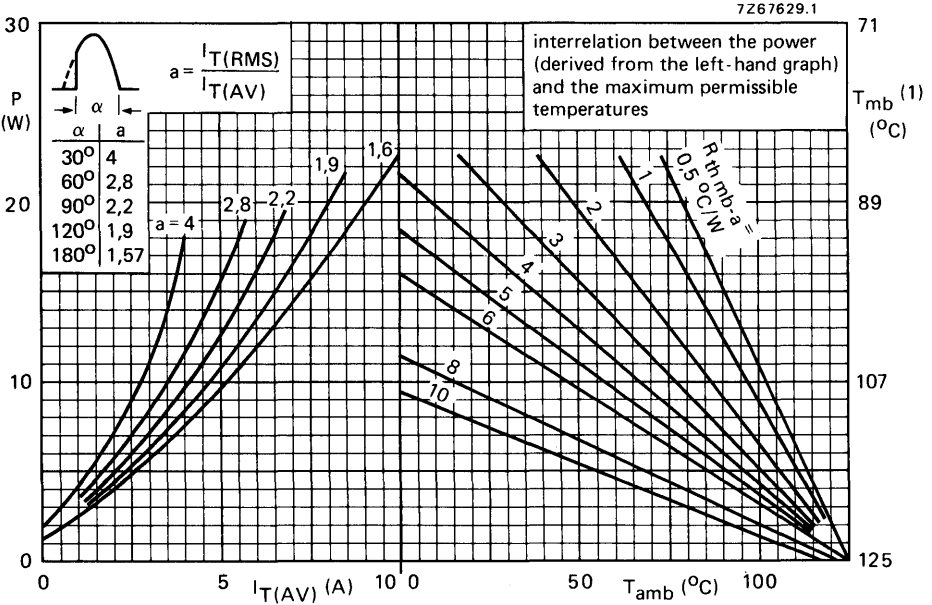

Fig. 3 (1) T_{mb} -scale is for comparison purposes only and is correct only for $R_{th\ mb-a} \leq 6\ \text{°C/W}$.
* To ensure thermal stability: $R_{thj-a} < 4$ °C/W (d.c. blocking) or < 8 °C/W (a.c.). For smaller heat-sinks T_{jmax} should be derated. For a.c. see Fig. 3.